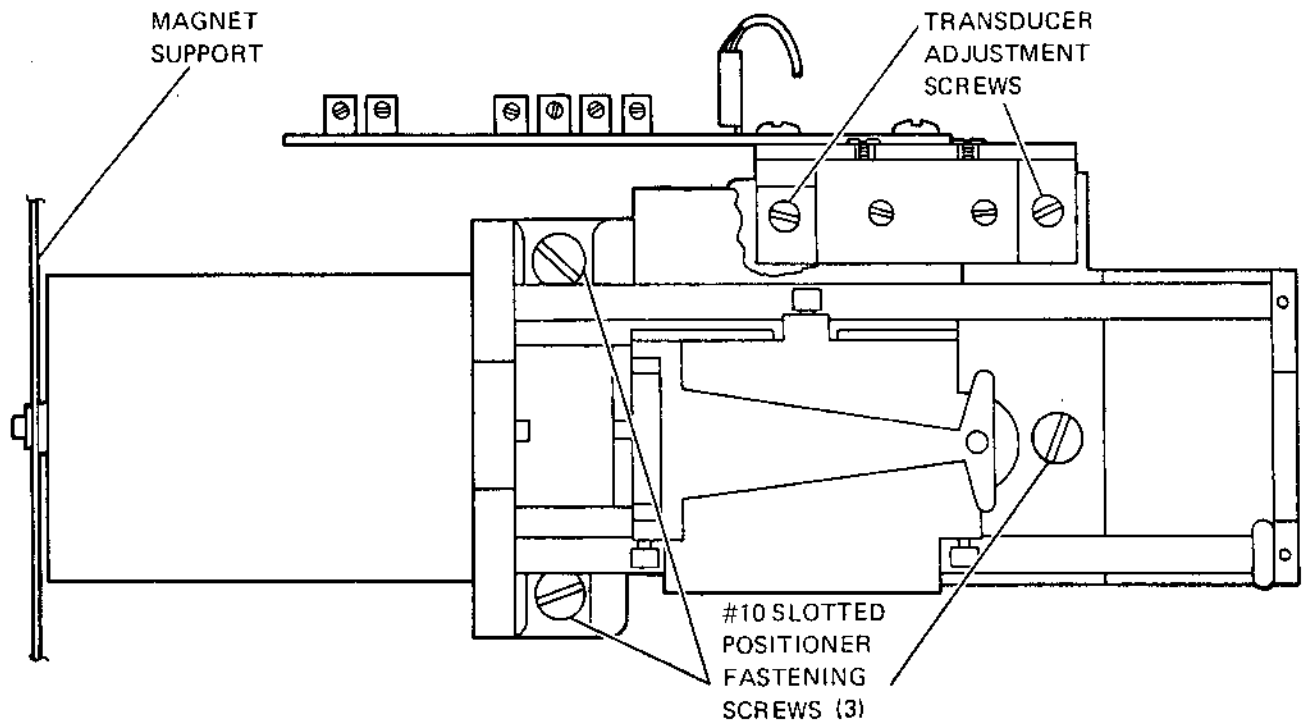

Figure 2-7. Positioner Track and Azimuth Adjustment
- b. Slacken two screws securing transducer assembly to positioner frame, just sufficiently to allow the assembly to slide within the range of the adjustment slots. (Figure 2-7.)
- l. If there is a difference in time greater than $\pm 20 \mu\text{sec}$, slacken three No. 10 slotted screws holding positioner frame to deck plate, and one No. 6 allen cap screw supporting magnet assembly. (Figure 2-7.)
- c. Remove three No. 10 slotted screws securing positioner assembly to deck plate and remove positioner assembly. (Figure 2-7.)